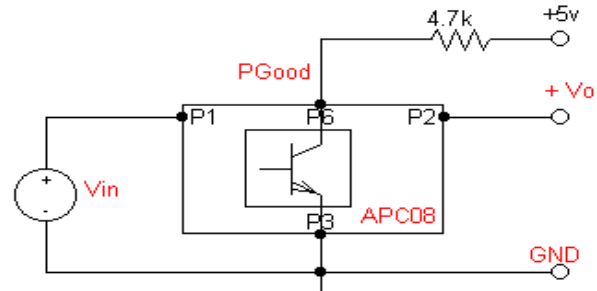

Figure 6. PGGood setup.
- Refer to Figure 6 for the PGood configuration.
PG pin provides an output signal indicating the V_{out} is operational (TTL logic signal). It can sink current up to a max of 5mA and can have a maximum external pull-up voltage of 6V. Please see recommended setup shown on Figure 6.